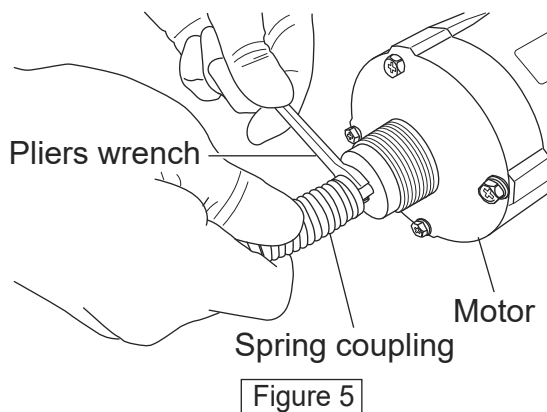

Figure 5
3. Remove the spring coupling fixed to the motor with the pliers wrench. (Figure 5)
3. Assemble the spring coupling to the motor. (Figure 5)